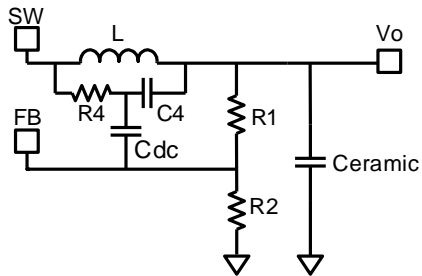

Figure 9: Simplified Circuit of a Ceramic Capacitor with a DC Blocking Capacitor
Using Equation (14) and Equation (15) to calculate the output voltage can be complicated. To simplify the calculation of R1 in Equation (14), add a DC-blocking capacitor (C_{dc}) to filter the DC influence from R4 and R9. Figure 9 shows a simplified circuit with external ramp compensation and a C_{dc}. With this capacitor, R1 can be calculated easily for PWM mode operation with Equation (17):